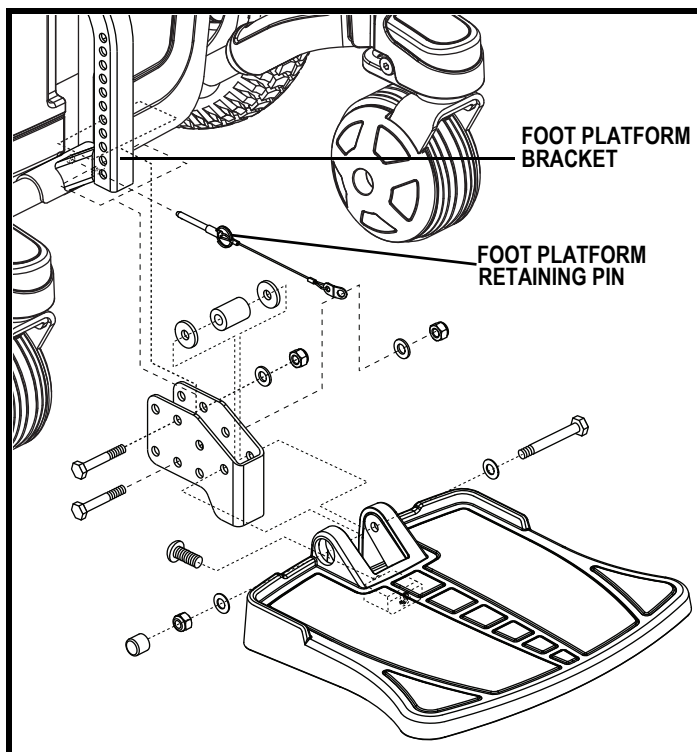

Figure 19. Foot Platform Adjustment
1. Remove the hardware from the foot platform bracket. **See figure 19.**
1. Flip up the foot platform and locate the screw. **See figure 19.**